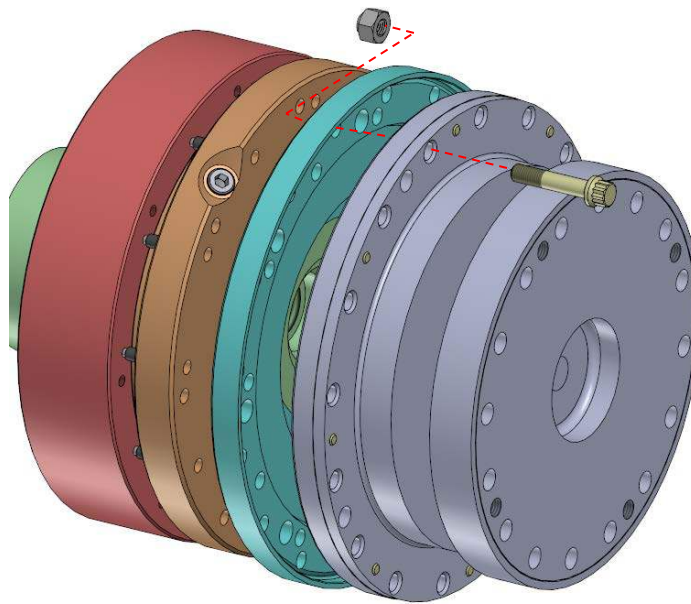

Figure 8 – Flex Assembly Installation on Hub Flange
4.1.1 Install one flex assembly onto the hub as shown in Figure 8 aligning the holes using Qty (4) bolts and nuts spaced 90 degrees apart. Tighten the bolts/nuts a few turns at a time in a criss-cross pattern to seat the pilot evenly. Install the remaining bolts and nuts and torque evenly in a criss-cross pattern to the torque shown on drawing HC-10378.